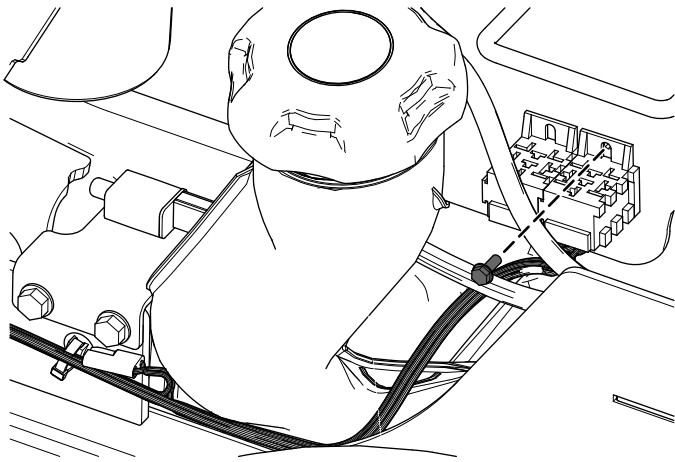

Figure 15
- Secure the wire harness near the relays using the tap-tite screw (Figure 15).